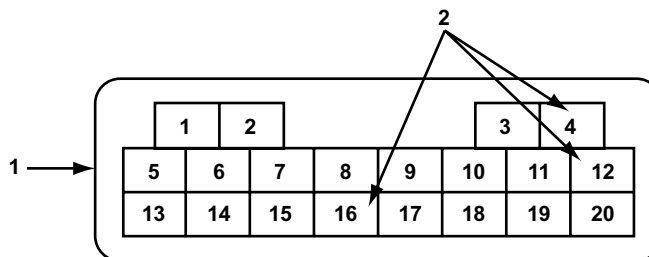

Figure 11-6 20-pin DLC—jump pins for ABS codes
- Connect pin 16 to ground (pins 4 or 12) as shown in Figure 11-6.